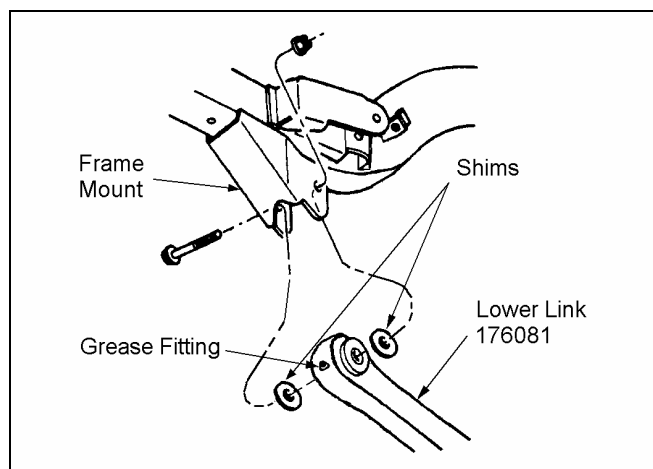

Figure 3 (rear)
- 6) For the rear suspension, remove the lower link axle and frame mounting bolts. Remove the lower link. See figure 3.